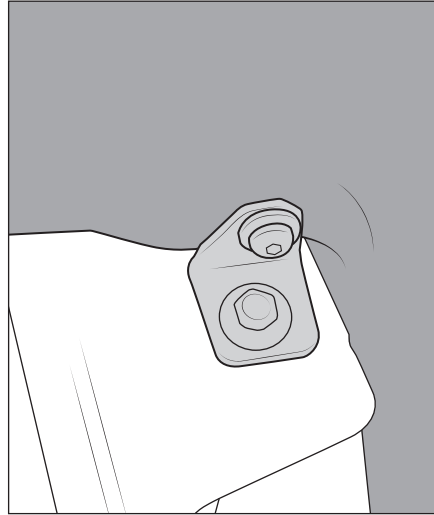

Figure 11
6. Install the front mounting bracket using the front fender bolt. Place bracket over fender hole, loosely reinstall fender bolt, and bolt bracket into snorkel threaded insert with provided M6 bolt and washer (fig. 11). Tighten both until snug, but not fully torqued. Adjust lower snorkel body and brackets so that they sit evenly with fender and cowl, without excessive gaps or any paint contact. Once snorkel is properly positioned, tighten front M6 bolt going into snorkel body to **100 in-lb**.